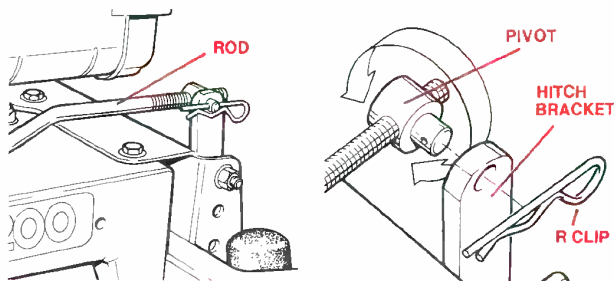

Figure 2. Cutter Drive Belt Adjustment.
3. Find the Cutter engage rod connection to the arm of the Hitch Bracket attached to the front of the tractor. (See figure 2).